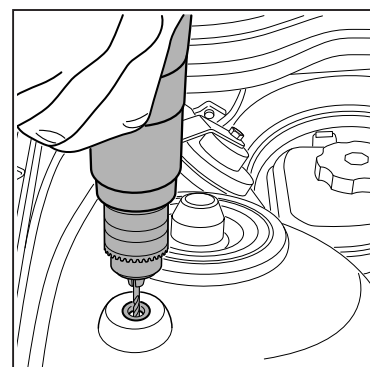

Fig 4.
6. Drill 3 x Ø8mm clearance holes in each strut tower as shown in Fig 4.